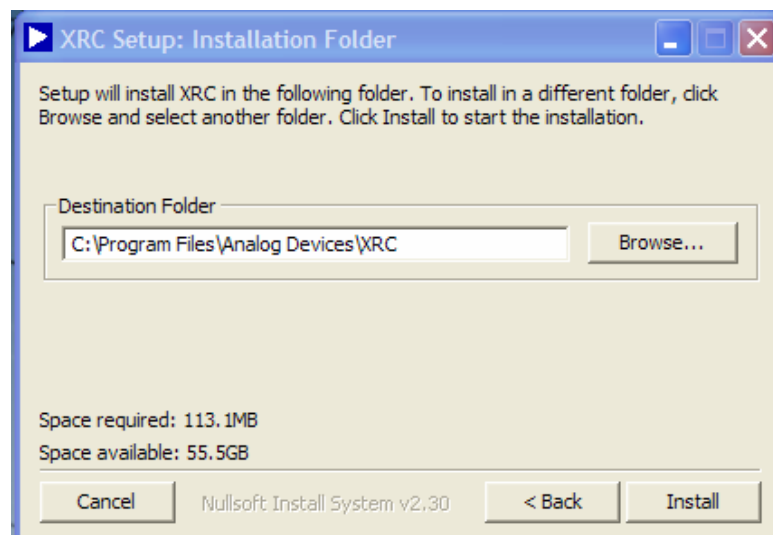

Figure 3 - Installation Folder
5. Select the desired installation folder (see Figure 3)